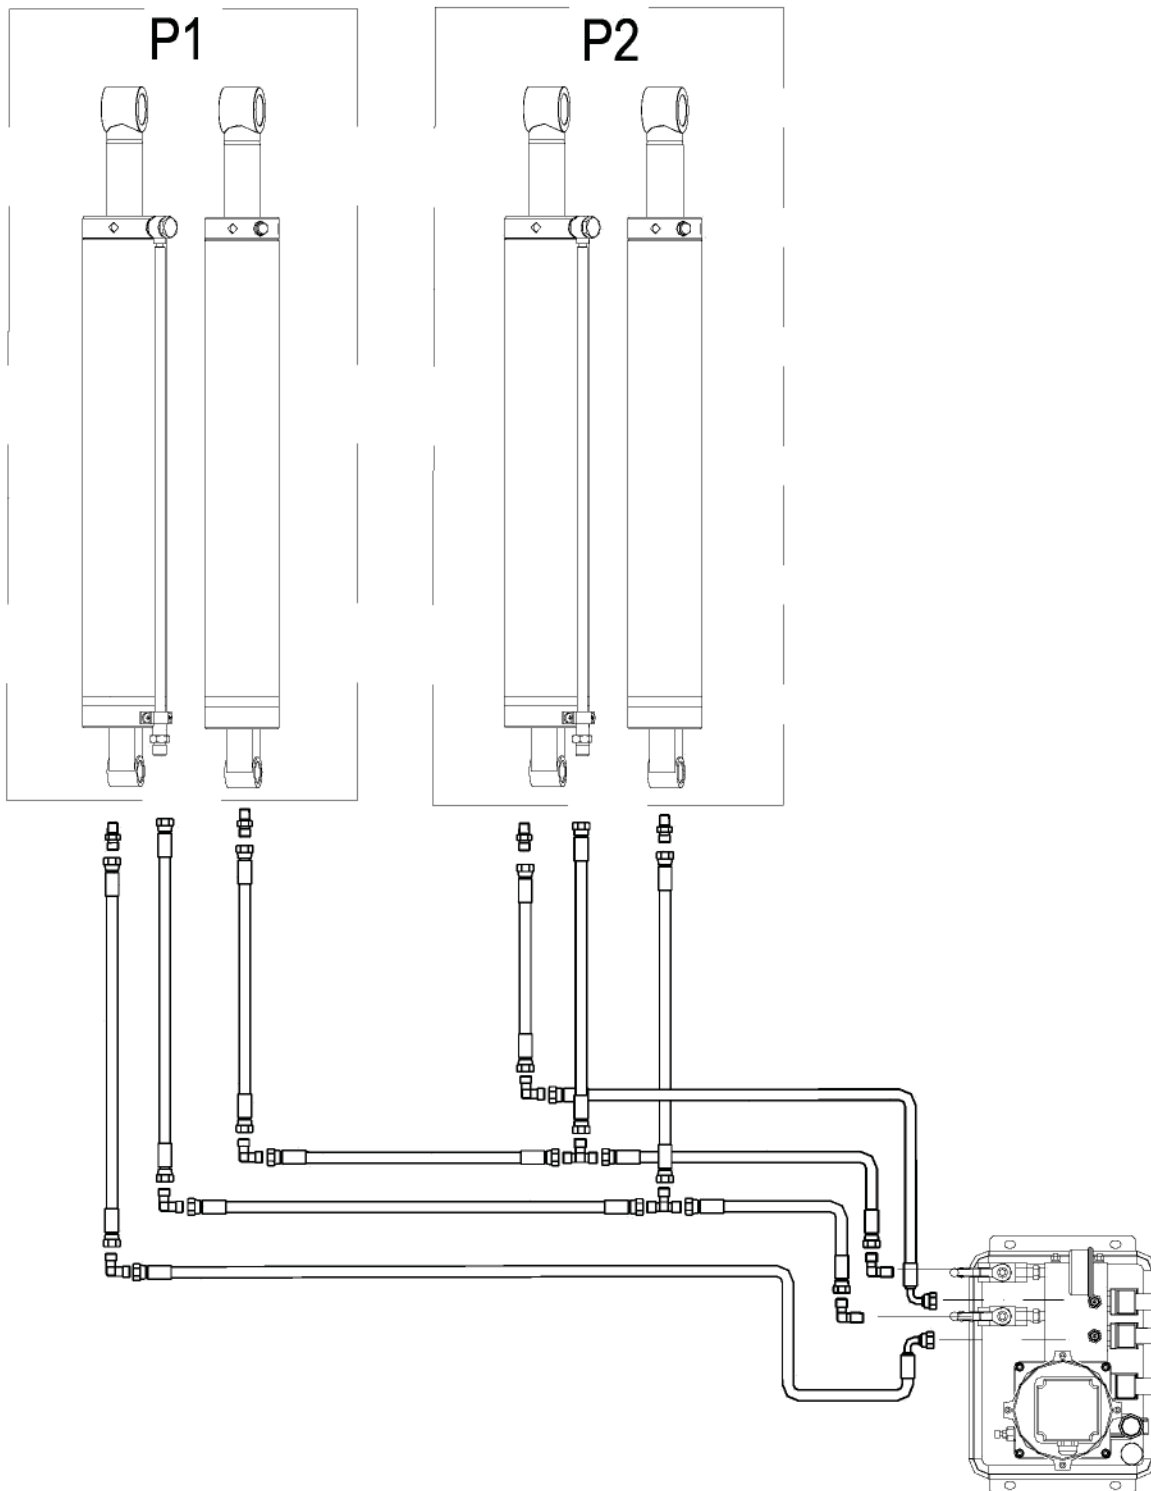

Figure 13 – Hydraulic Connection
7.5 Hydraulic System Connection (Ref. Fig. 13)